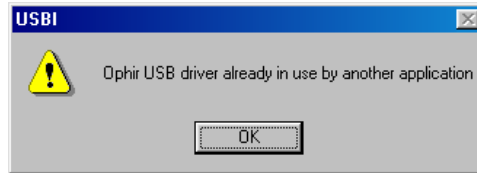

Figure 3-1 "USB driver in use" warning box
**Note:** *If the RP-USB application is already running, the StarLab application will not start. Click **OK** to close the warning box (see *Figure 3-1*) and then close the RP-USB.*